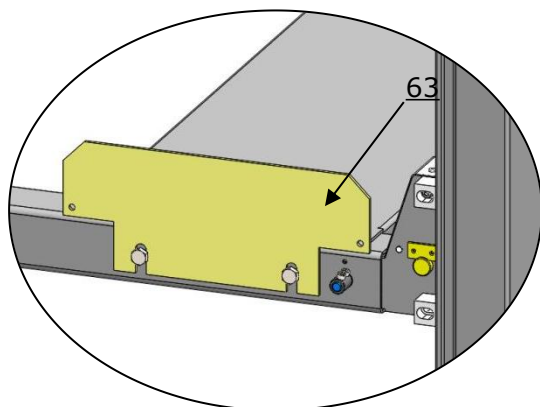

Fig. 31
O. Install Rear wheel stop plates (See Fig. 31)